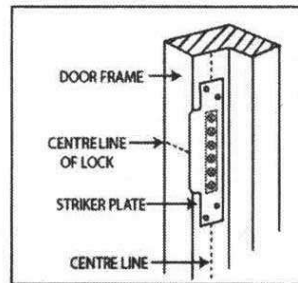

fig. 3
4. Insert lock into door and secure with screws supplied, determine the position of the strike on the door frame and fix as required fig. 3 & 4